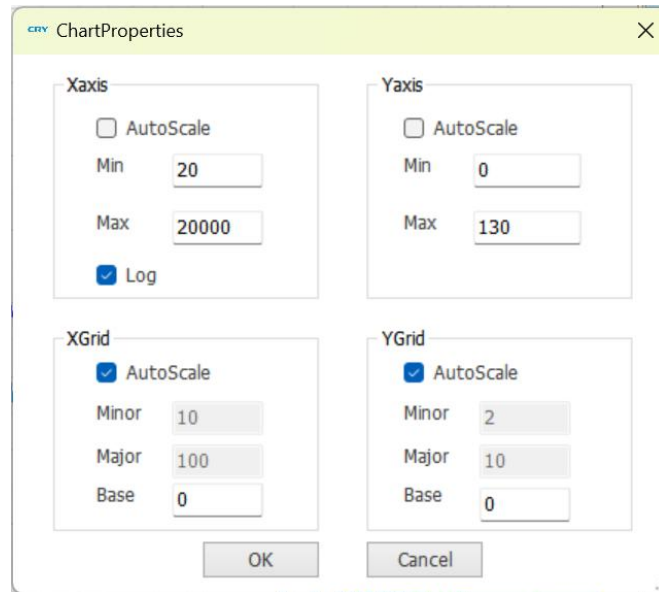

Figure 18. Window Parameter Settings
- Chart Properties can adjust the range of axes, as well as the background grid size, as shown in Figure 18. The Threshold Settings and Calibration Functions are the same as above, except that a new entry has been added for easy operation.